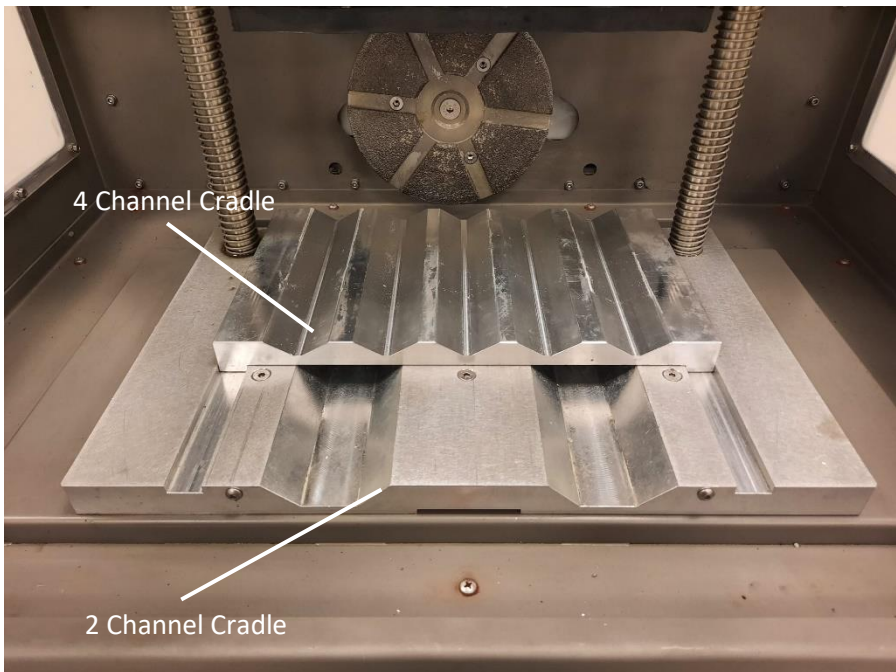

Figure 9: Cradles
2. Select the appropriate cradle to grind the samples and place it (see Figure 9).